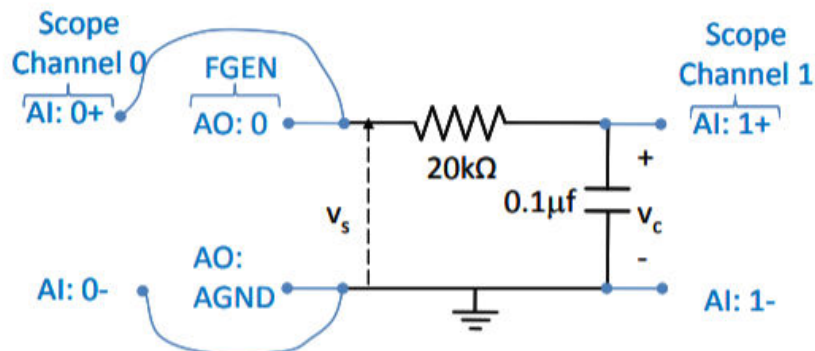

Figure 4. Circuit Schematic with myDAQ connections
- On the protoboard, construct the RC circuit whose schematic is shown in Figure 4 below.